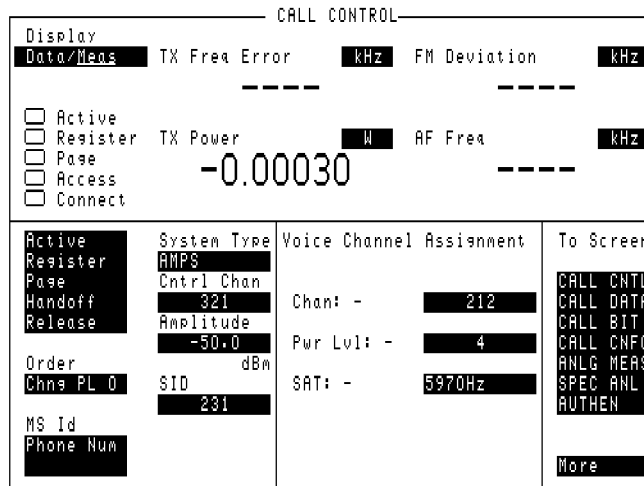

Figure 55 CALL CONTROL Screen with Meas Selected
- For system type AMPS, TACS, AND JTACS the following parameters are measured when the Test Set is in the connect state. See Figure 55 .